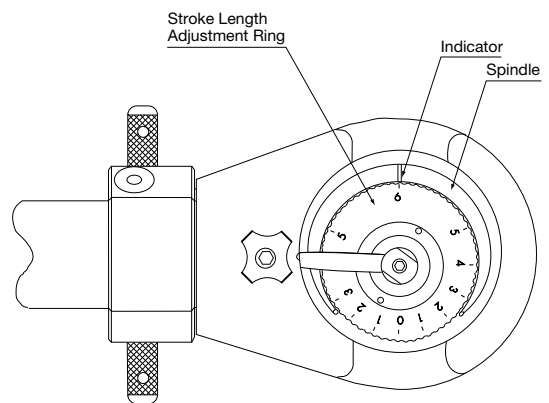

Fig.5
- ④ Turn the adjustment ring, while holding the spindle with your finger, and align the desired stroke length with the indicator line. The stroke length can be adjusted between 0 - 6 mm. (0 - 0.236") (**Fig.5**)